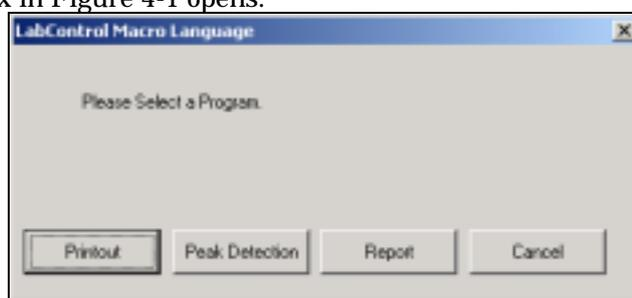

Figure 4-1. Selection of program
5. The dialog box in Figure 4-1 opens.
- Click < Printout > button in Figure 4-1.